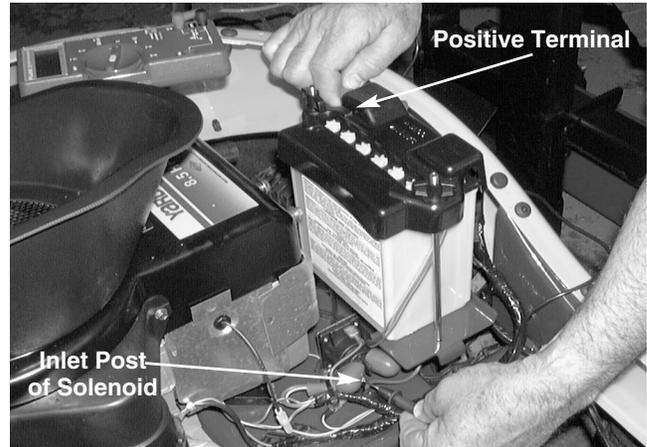

FIGURE 3.
-There will be **CONTINUITY**. See figure 3.